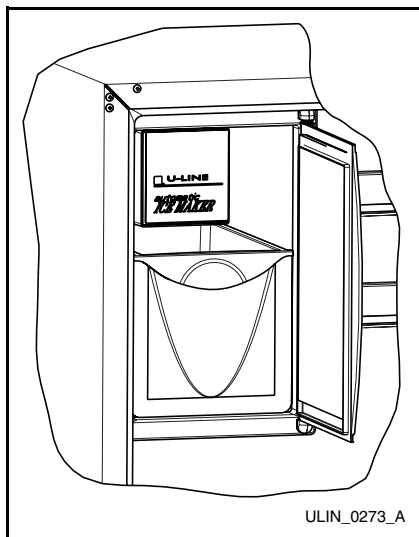

Figure 11
1. Remove the ice maker assembly cover (**Figure 11**).